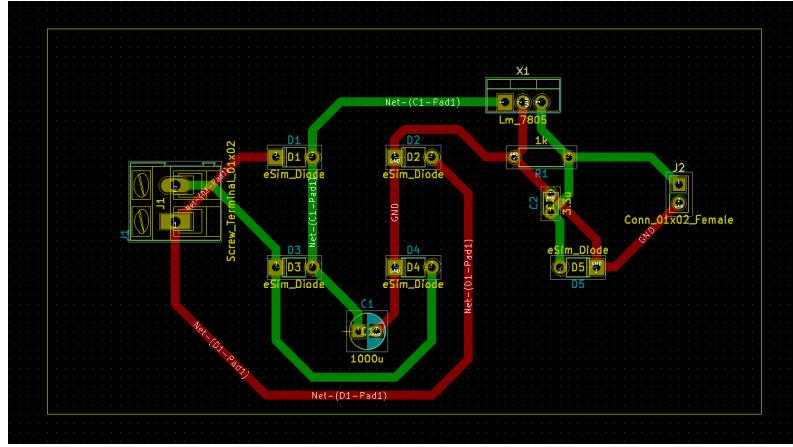

Figure 16.20: All tracks placed
5. Similarly, all the tracks have been placed as shown in Fig. 16.20. Please note that tracks shown in green color are on B.Cu. layer whereas the tracks in red color are placed on the F.Cu. layer.